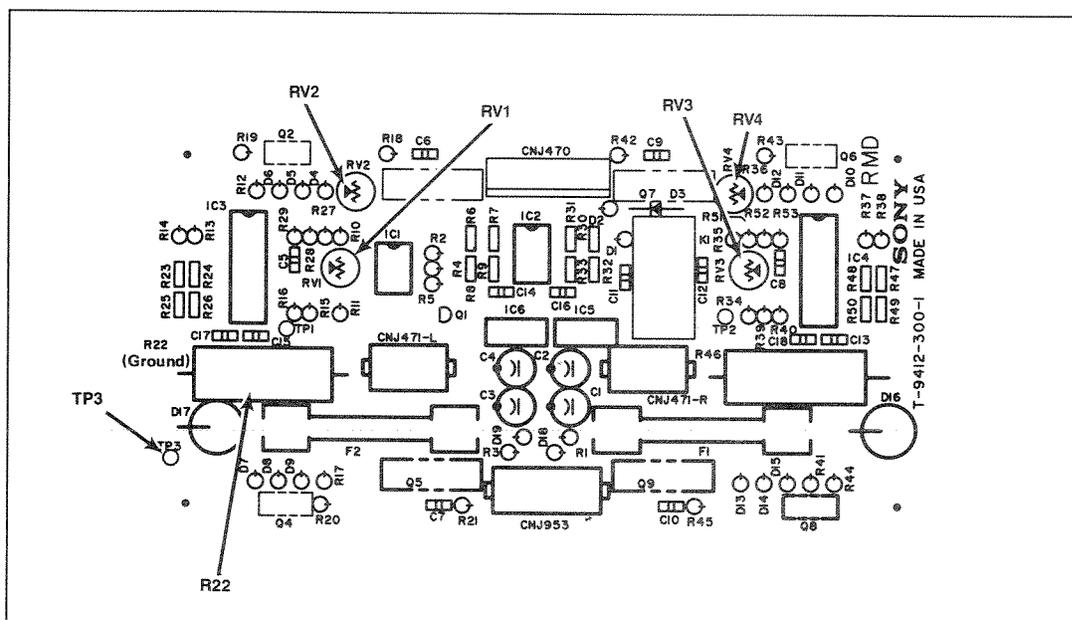
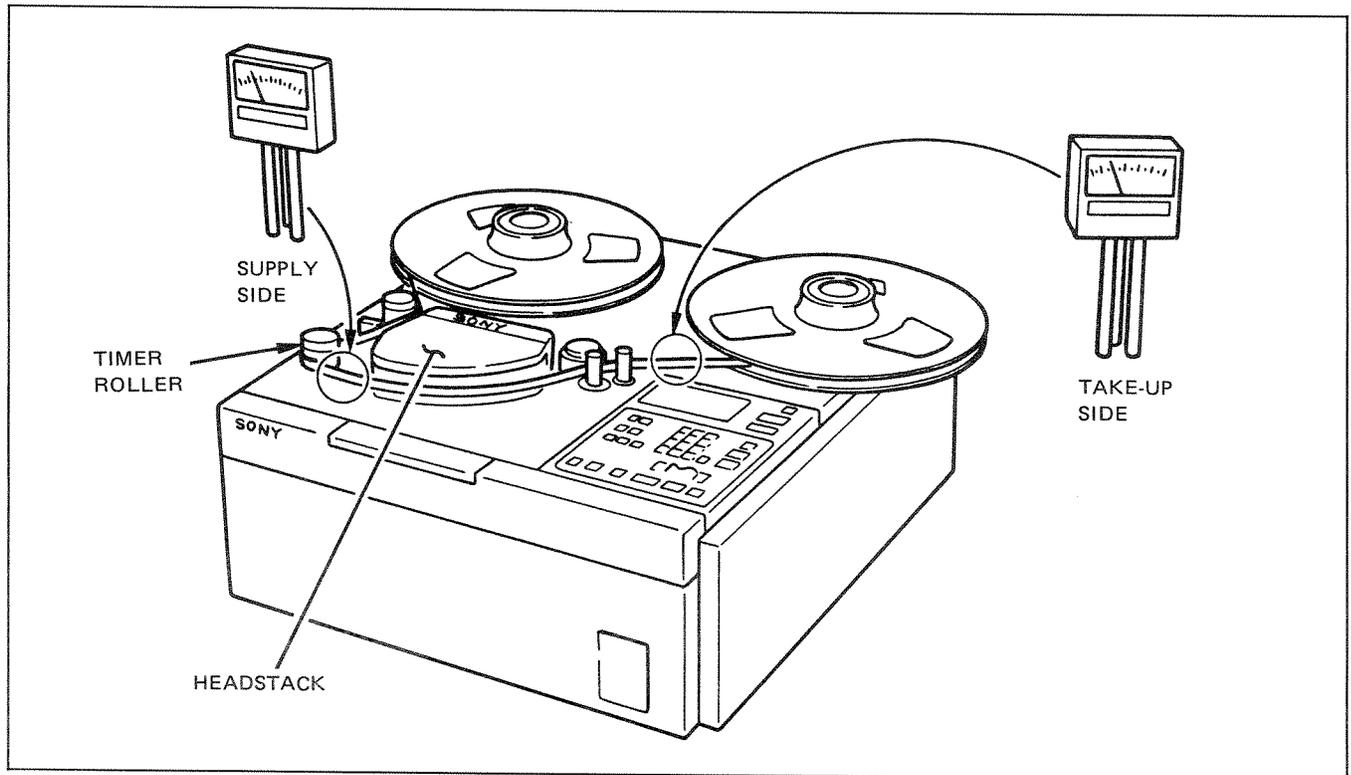

Figure 6-18. RMD Adjustments
Figure 6-19. Tape Tension Measurement
- STEP 2** With the machine in EDIT mode and power on, connect a DVM across R22. Ensure that the negative probe is attached to the grounded end of R22, which is closest to the RMD PC board's edge. Refer to Figure 6-18 for the location of R22 and the ground connection.
- STEP 4** Move the DVM probes across R46. Ensure that the negative probe is attached to the grounded end of R46, which is closest to the RMD PC board's edge. Refer to Figure 6-18 for the location of R46 and the ground connection.
- STEP 4** Place the tentelometer between the Timer roller and Headstack (See Figure 6-19.) Adjust RV1 (see Figure 6-18.) on the RMD assembly (rear panel) for 70 grams \pm 5 grams.
- STEP 5** Place the tentelometer between the capstan motor and the take-up motor. (See Figure 6-19.) Adjust RV3 on the RMD assembly for 120 grams \pm 5 grams.